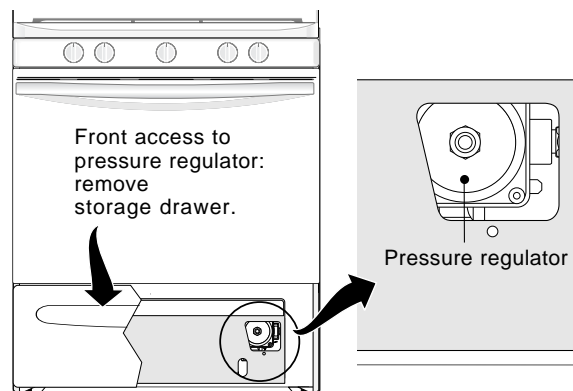

Fig. 1
- To access the pressure regulator, **remove** the storage drawer See Fig. 1.